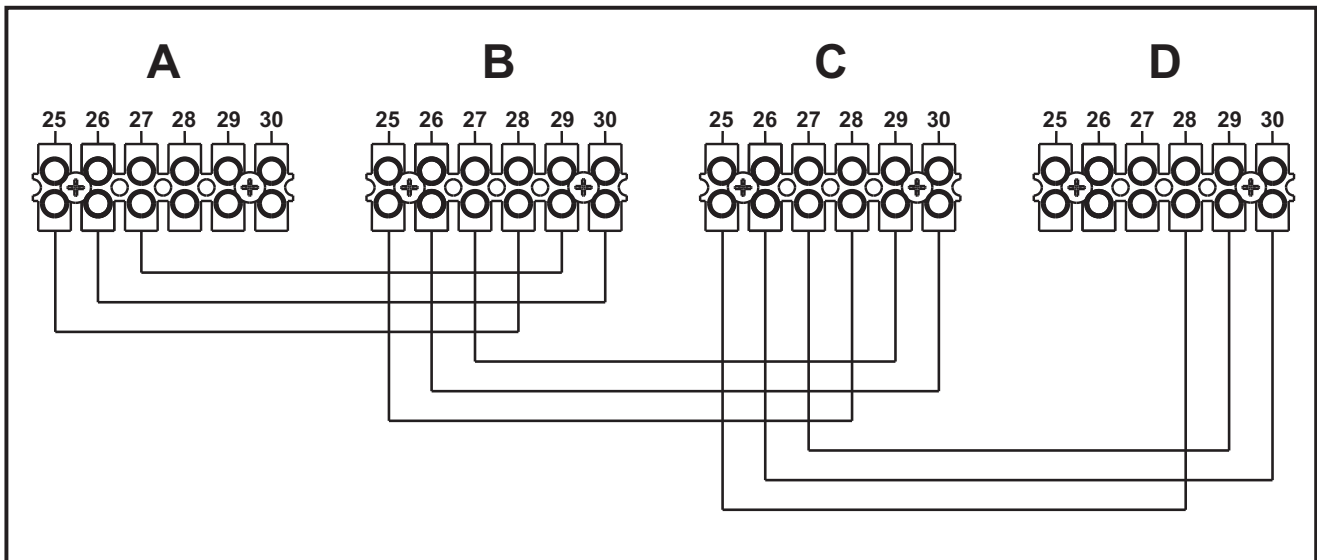

fig. 27 - Connection in cascade
1. Connect the modules as shown in fig. 27
If this does not occur, disconnect the power and check the wiring in fig. 27.